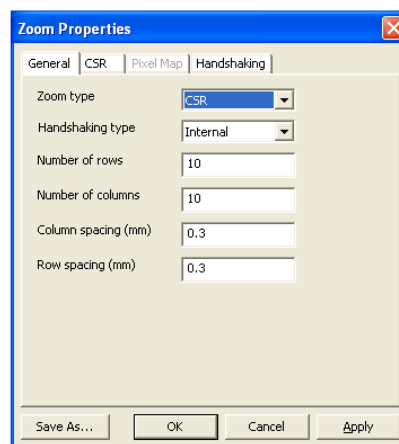

Figure 7.12.5 CSR –General
1. Choose the zoom type in the **General** tab (see Figure 7.12.5):